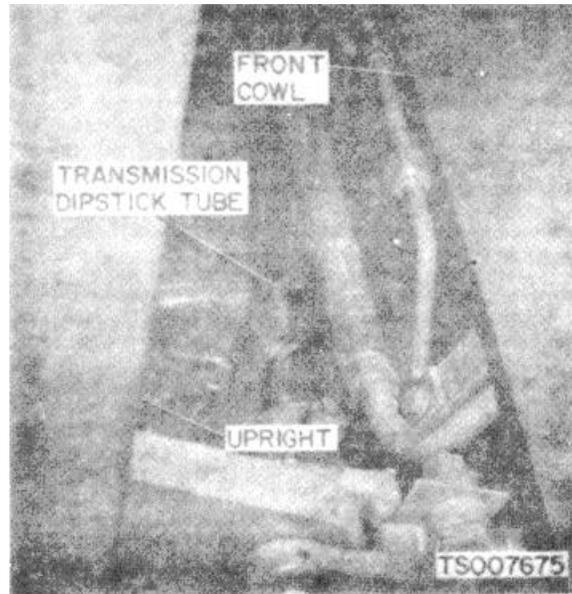

Figure 3-3. Transmission Dipstick Location
measured on a dipstick (fig. 3-3) that is installed on the filler cap on the top front of the axle housing.
(2) To check the transmission fluid level, put the direction shift lever in neutral and start the engine. Run the engine for approximately four minutes. Stop the engine and remove the filler cap and dipstick (fig. 3-3) from the top front of the axle housing. Check the fluid level on the dipstick. If necessary, fill to the FULL mark on the dipstick, using the transmission fluid specified in the lubrication order.
(3) Install the filler cap and dipstick. Recheck fluid level.
(4) To change the transmission fluid, run the truck to warm the fluid to operating temperature. Drain the fluid by removing the transmission drain plug and differential drain plug at the bottom of the truck.
(6) Reinstall the drain plugs and refill the transmission through the filler hole at the top front of the differential housing. Fill until the level is to the FULL mark on the dipstick of the filler cap and dipstick (fig. 3-3). Run the engine at fast idle with the direction shift lever in neutral. Recheck the transmission fluid level and add to bring level to the FULL mark.